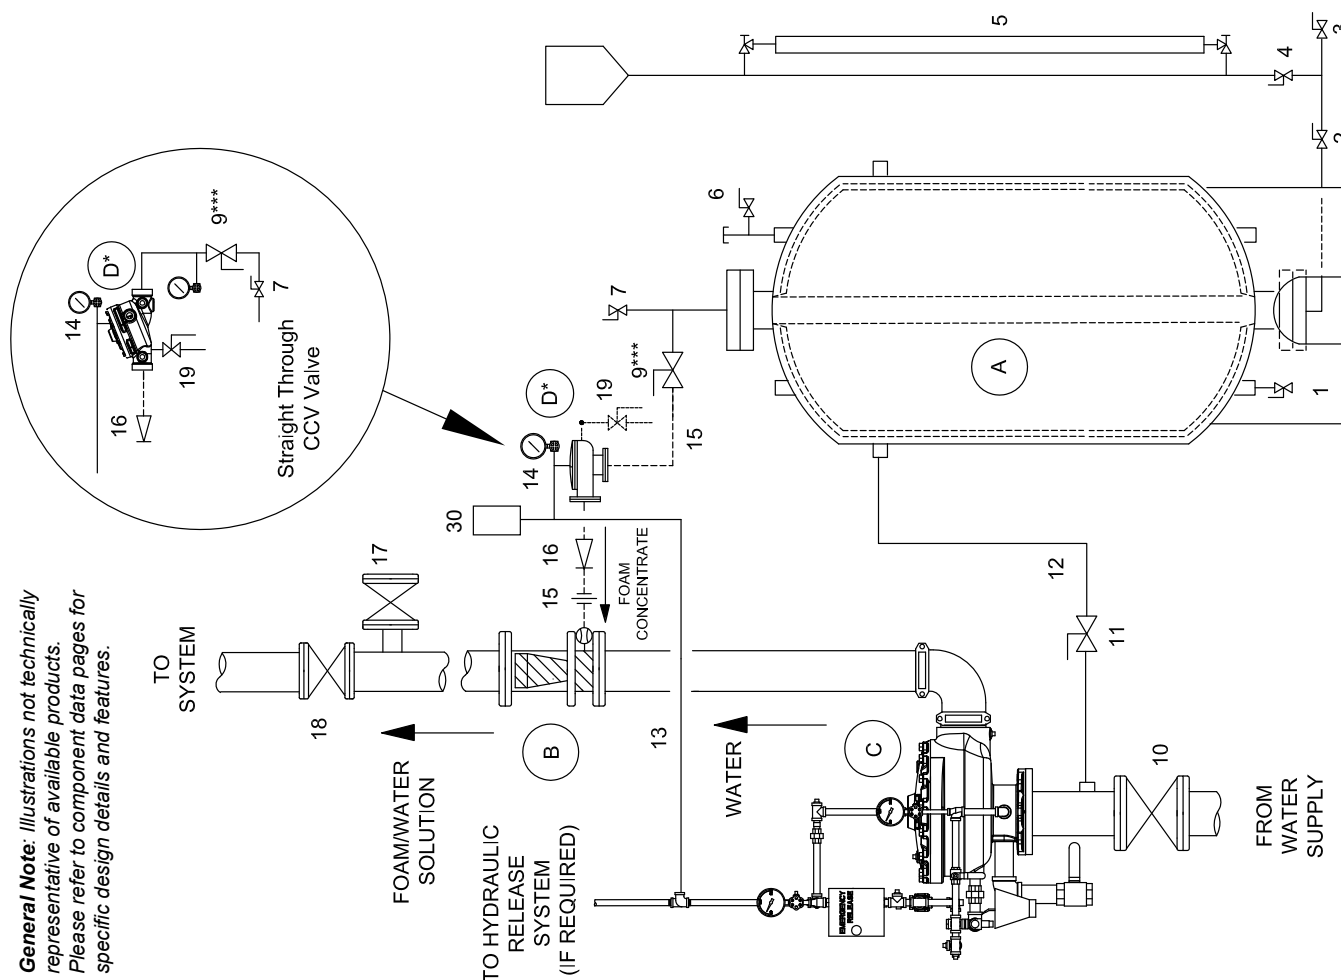

Figure 1
- f. Verify normal valve positions and secure in correct position (as detailed in Figure 1,2 or 3).
- B. The combined total equivalent length of pipe, fittings and valves in both the water supply inlet piping (12) and the foam concentrate discharge piping (15), must not exceed 50 equivalent feet (15.2 meters). This will allow both pipes to be the same size as the foam liquid inlet to the ratio controller.
- C. The Halar® coated deluge CCV (D) and swing check valve (16) must be connected adjacent to the ratio controller using pipe nipples as short as possible.
- D. Figures 1 - 3 are general schematics of the required piping arrangement. Refer to the appropriate technical data page for specific information regarding the valve, tank, and related trim and devices.